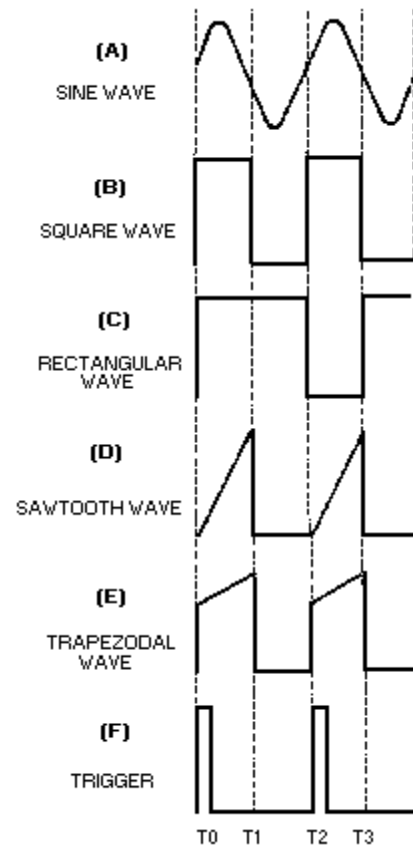
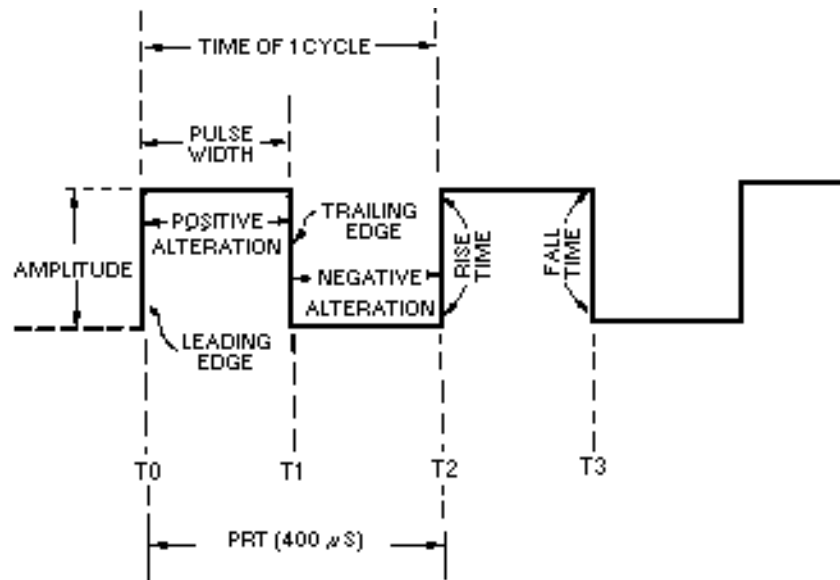

Figure 3-1.—Periodic waveforms.
Figure 3-2.—Square wave.
Each completed pattern of a periodic waveform is called a CYCLE, as shown by the SINE WAVE in figure 3-1, view (A). Sine waves were presented in NEETS, Module 2, *Alternating Current and Transformers*, Chapter 1.
A SQUARE WAVE is shown in figure 3-1, view (B). As shown, it has two alternations of equal duration and a square presentation for each complete cycle. Figure 3-2 shows a breakdown of the square wave and is the figure you should view throughout the square wave discussion. The amplitude is measured vertically. The time for a complete cycle is measured between corresponding points on the wave (T0 to T2, or T1 to T3).
One alternation is called a PULSE. The time for one complete cycle is called the PULSE-REPETITION TIME (prt). The number of times in 1 second that the cycle repeats itself is called the PULSE-REPETITION FREQUENCY (prf) or PULSE-REPETITION RATE (prr). If each alternation in figure 3-2 is 200 microseconds (μs), the prt will be 400 microseconds, and the prf will be 2,500 hertz. The following examples are provided to illustrate the mathematical relationship between prf and prt:
A rectangular wave is similar to the square wave. The difference is that in the rectangular waveform, the two alternations of the waveform are of unequal time duration. Figure 3-1, view (C), shows that the negative alternation (pulse) is shorter (in time) than the positive alternation. The negative alternation could be represented as the longer of the two alternations. Either way, the appearance is that of a rectangle.
The SAWTOOTH waveform is shown in figure 3-1, view (D). A sawtooth wave resembles the teeth of a saw blade. There is a rapid vertical rise of voltage from T0 to T1, which is linear (straight). At T1 this voltage abruptly falls (essentially no time used) to its previous static value. The voltage remains at this value until T2 when it again has a linear rise. You can see this action in an oscilloscope where there are two voltage input locations, vertical and horizontal. If you apply a linear voltage to the vertical input, the electron beam will be forced to move in a vertical direction on the crt. A linear voltage applied to the horizontal input will cause the electron beam to move horizontally across the crt. The application of two linear voltages, one to the vertical input and one to the horizontal input at the same time, will cause the
A TRAPEZOIDAL wave looks like a sawtooth wave on top of a square or rectangular wave, as shown in figure 3-1, view (E). The leading edge of a trapezoidal wave is called the JUMP voltage. The next portion of the wave is the linear rise or SLOPE. The trailing edge is called the FALL or DECAY. A trapezoidal wave is used to furnish deflection current in the electromagnetic cathode ray tube and is found in television and radar display systems. Electromagnetic cathode ray tubes use coils for the deflection system, and a linear rise in current is required for an accurate horizontal display. The square or rectangular wave portion provides the jump voltage for a linear rise in current through the resistance of the coil. This will be explained further in a discussion of the trapezoidal sweep generator.
A trigger is a very narrow pulse, as shown in figure 3-1, view (F). Trigger pulses are normally used to turn other circuits on or off.